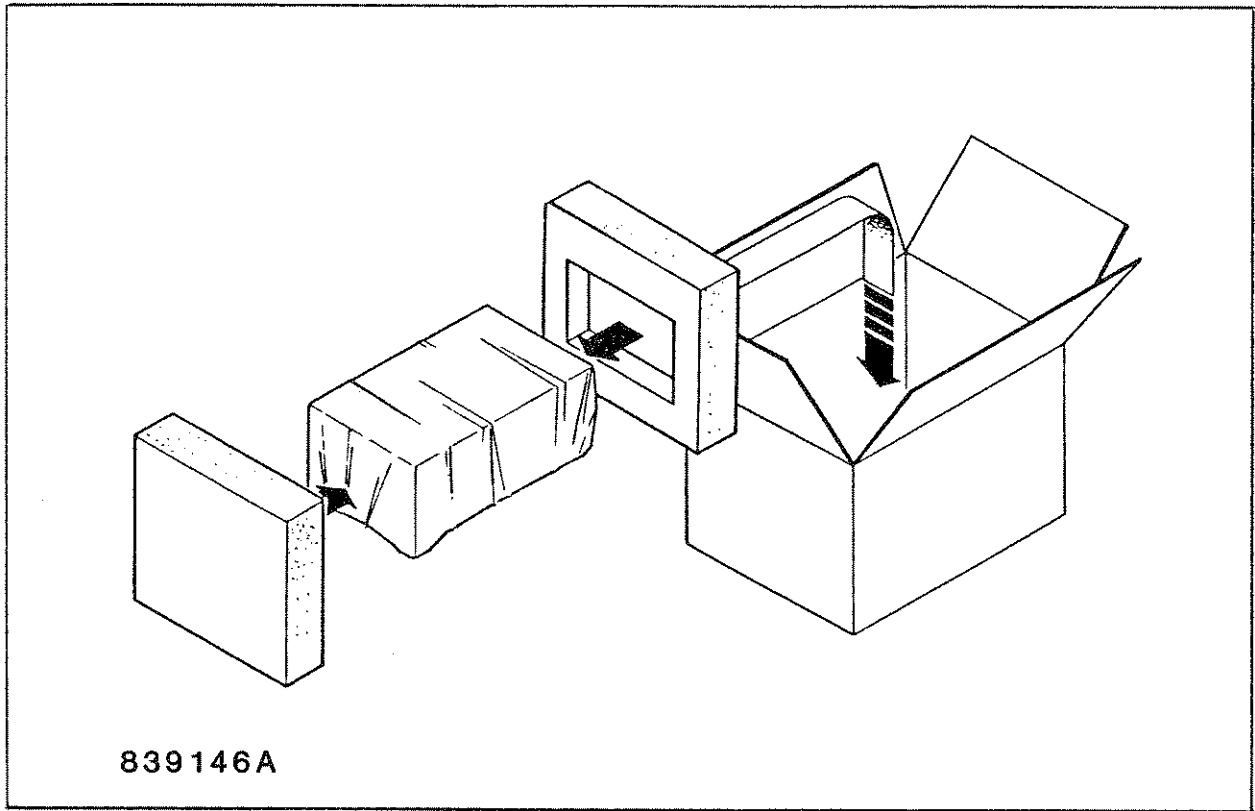

Figure 2-1. Packing and Unpacking Diagram
**2-2. UNPACKING.** The 2510 is shipped complete and is ready to use upon receipt. Unpack the instrument from its shipping container and inspect it for damage that may have occurred during shipment. See **Figure 2-1.**